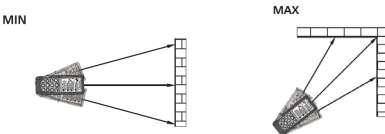

Fig. 5: Examples of continuous distance measures
4. The minimum and maximum value of distance are shown in the partial displays while continuous measurement is shown dynamically when moving the instrument (see Fig. 5) on the resulting display